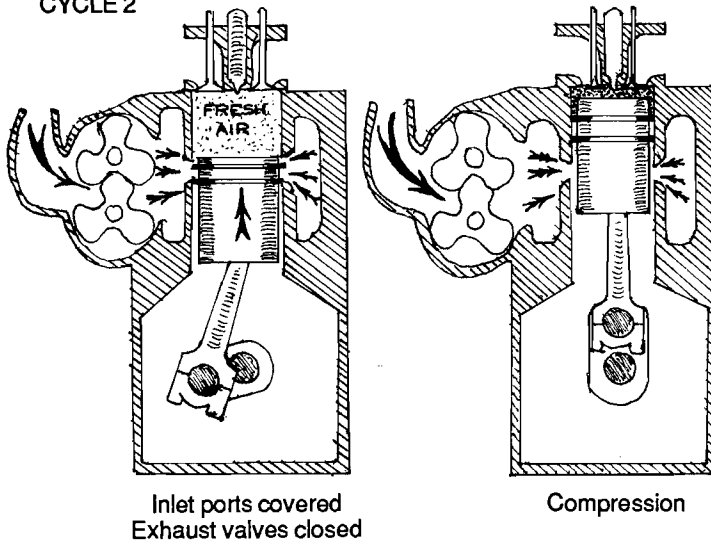

Figure 1-7. Operation of a 2-cycle engine.
1. Begin with the power stroke. The piston is at the top of its cylinder, which is full of hot compressed air. The fuel is injected, and ignites. The rising temperature and pressure drive the piston back down the cylinder (see Figure 1-7).